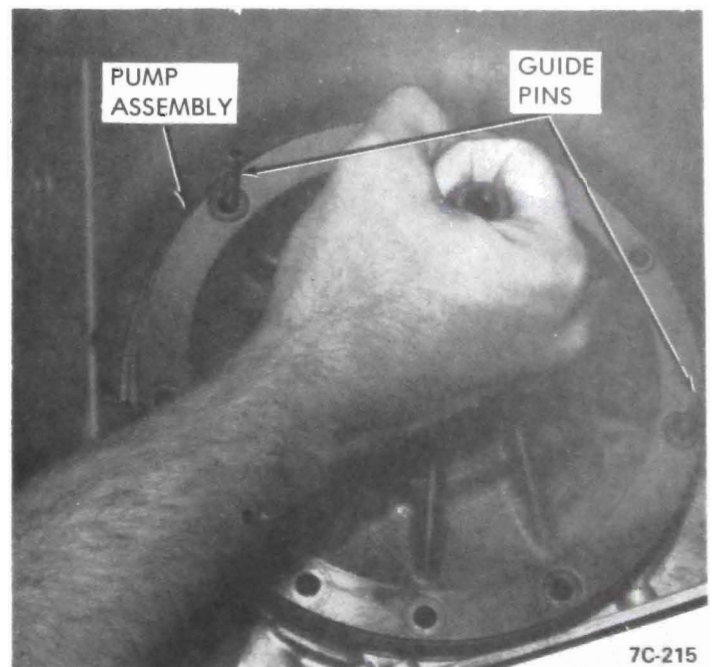

Figure 7C-159
3. Attach slide hammer bolt to threaded hole in oil pump. See Figure 7C-160. With flat of hand on end of input shaft move shaft rearward. Install Dial Indicator Set J-8001 on rod and "O" dial indicator on end of input shaft. Push on end of output shaft to move shaft forward, the reading obtained will be the clearance. There are three selective thrust washers available, .065"-.067", .082"-.084", and .099"-.101" thick.